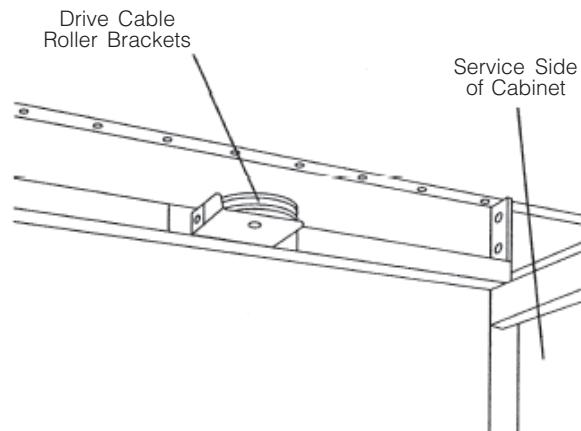

Figure 3-23. Install Drive Cable Roller Brackets
2. Install drive cable roller brackets with roller facing up. Attach two brackets to service side of cabinet exterior, one at each end and two brackets to cabinet interior, one at either end of chamber centered above door opening (see Figure 3-23). Ensure outer brackets are installed with open side facing center of cabinet, and inner brackets are installed with the open side facing service side of cabinet.